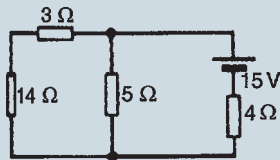

Figure 15.49
- Use Thévenin's theorem to find the current flowing in the 14Ω resistor of the network shown in Fig. 15.49. Find also the power dissipated in the 14Ω resistor.